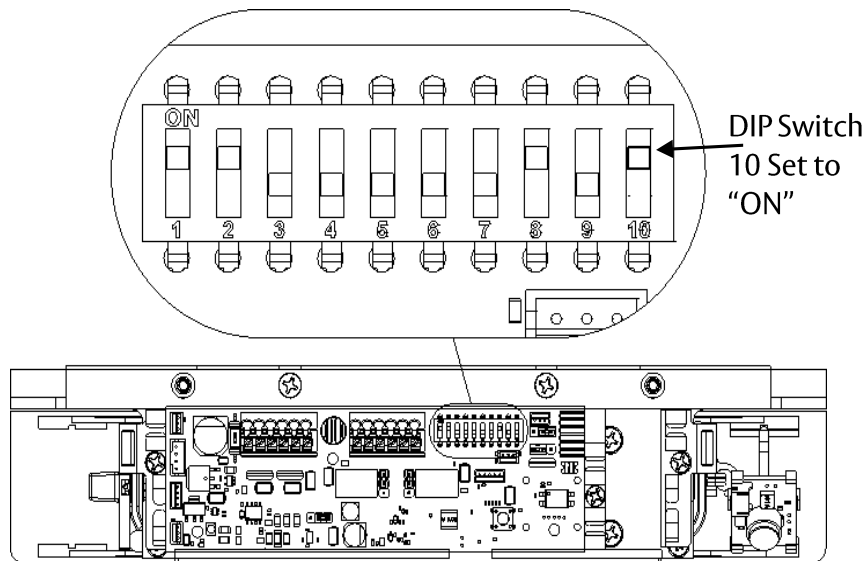

Figure 45. Setting Dip Switch 10 to ON
2. Using a Phillips screwdriver, REMOVE the two (2) screws securing the cover.
4. SET Dip Switch 10 to “ON” (see Figure 45, “Setting Dip Switch 10 to ON”).